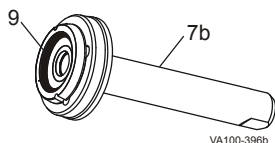

Figure 24 - Remove Counter bore O-ring
7. Replace the o-ring (Figure 24, item 9) in the counter bore of the lower stem as needed.